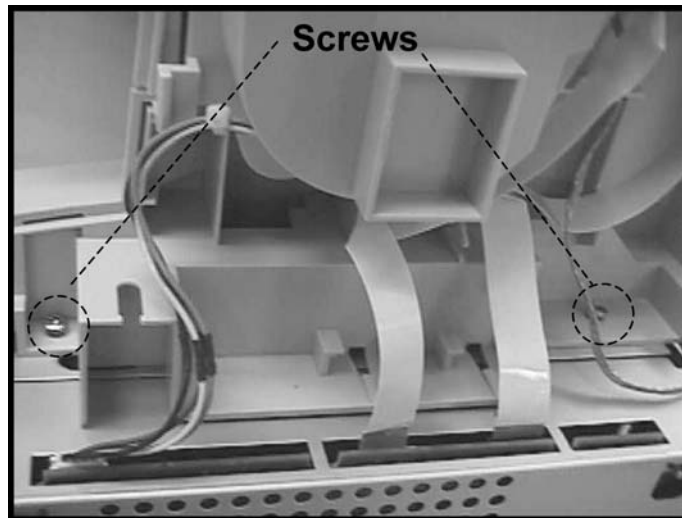

Figure 2
6. Remove the two screws shown in Figure 2.